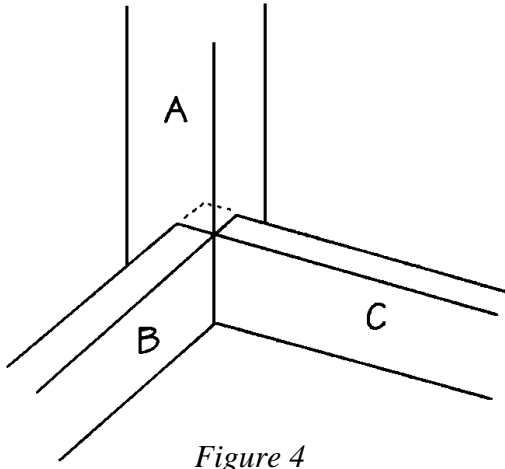

Figure 4
1. Turn one leg (A) dado-side down, and fit the dado over one corner of the side assembly, as
shown in *Figure 4*. Apply glue to the meeting surfaces, and screw through both the long side (B) and short side (C) into the leg (A). Use two 2-1/2-inch-long screws on each joint.
2. Repeat Step 1 three more times to attach the remaining three legs (A) to the three corners of the side assembly.
3. On the bottom of each leg, we attached a finial designed to top a fence post. Mark the center bottom of each of the legs (A), and screw in a finial.